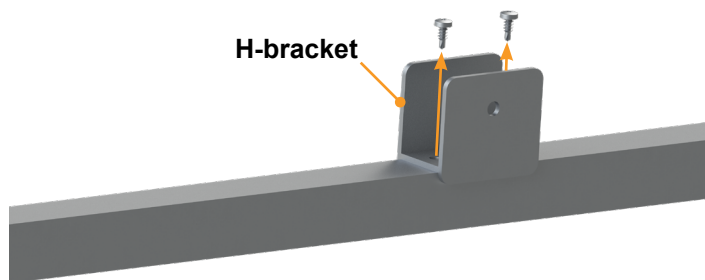

Fig.4
4. Remove all H-brackets from the fence railing (Fig.4).